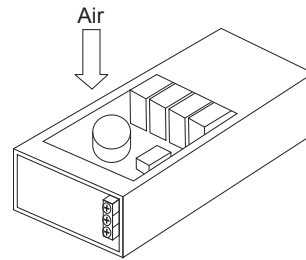

Fig. 6.3 Dwg. of -N specification
- In the event that cooling can be provided by the user's fan, the built-in fan may be eliminated (Refer to Fig.6.3).